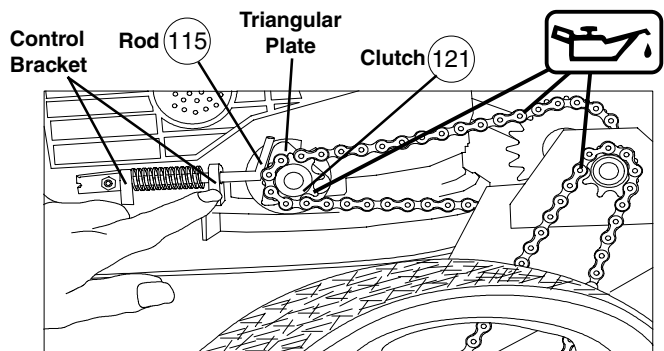

fig. 8
If drive will not disengage, adjust and align control bracket so that rod (item 115) fully contacts triangular plate on clutch assembly when bail is released (see fig. 8).